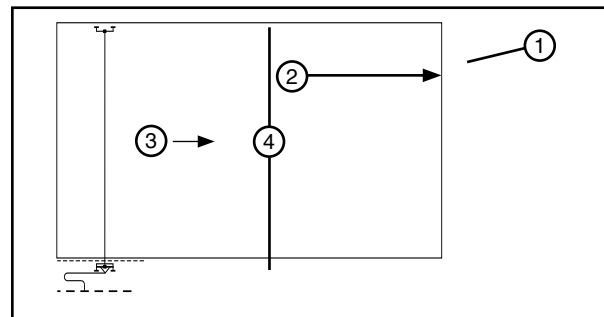

Figure 35-3 1. Field 2. Direction of Travel 3. Wet 4. STOP
1. The percentage timer is set at the desired application rate and the system is started at one end of the field and run wet (irrigating) to the middle of the field and stopped. See figure 35-3.